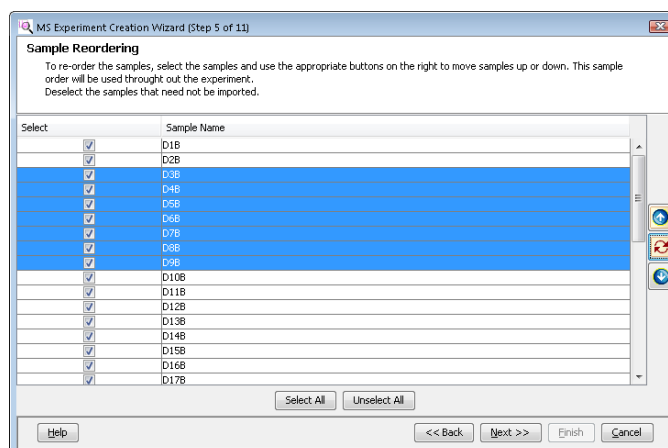

Figure 65 Selection and reordering of the sample files in the MS Experiment Creation Wizard Step 5
- a Click one or more samples that you want to reorder. Selected sample rows are highlighted as shown in Figure 65 on page 74.
In this example reordering the sample files to restore the numerical order from that shown in Figure 64 to the order shown in Figure 65 on page 74 reduces the potential for make a grouping error in the next step. The numerical order in this example correlates to the parameter values shown in Figure 7 on page 21.